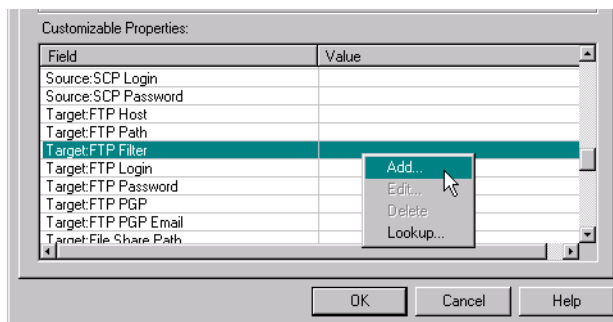

Figure 28-39. Scroll down to the **Target:FTP Filter** field, then right-click in the **Value** column and select **Add** from the drop down list.
- ❶ With the Document tab still selected, in the Customizable Properties screen area, click on the scroll bar and scroll down to the **Target:FTP Filter** field.
- ❷ Right-click in the **Value** column and select **Add** from the drop-down list. Compare your work to Figure 28-39, below.